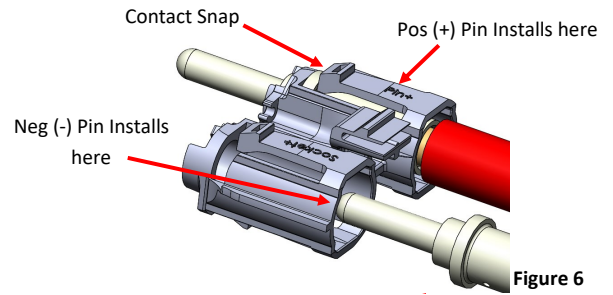

Figure 6
**CAUTION: Observe proper polarity. The positive and negative pin sides are indicated in Figure 6.**